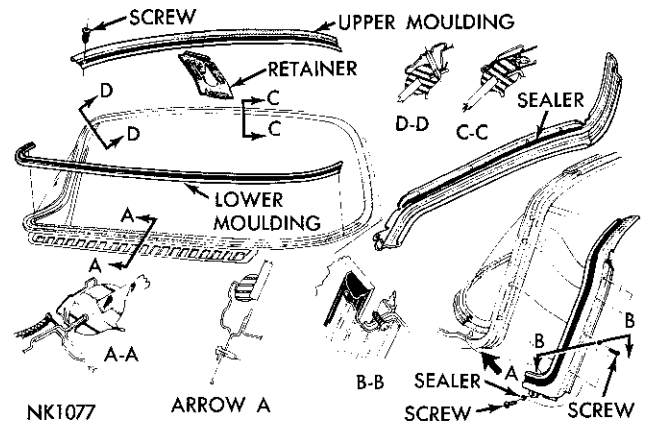
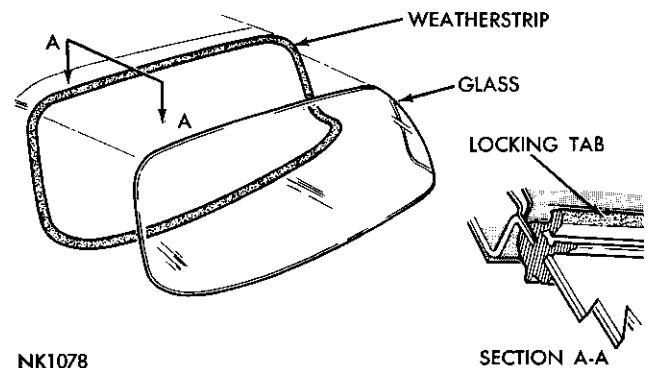

Fig. 122—Windshield Mouldings (Imperial)
Fig. 123—Windshield Installation (Imperial)
- (1) Cover the adjacent cowl, hood and fender area with a protective covering.
- (2) Remove the windshield outside mouldings (Fig. 122) and inside garnish mouldings.
- (3) Carefully loosen the sealing compound from around the weatherstrip and body opening.
- (4) Pry the lips of the weatherstrip apart, inspect the fibre tool, twist slightly to unlock, while moving the tool across the cowl, over the top and around the sides of the weatherstrip to completely unlock the locking tab (Fig. 123).